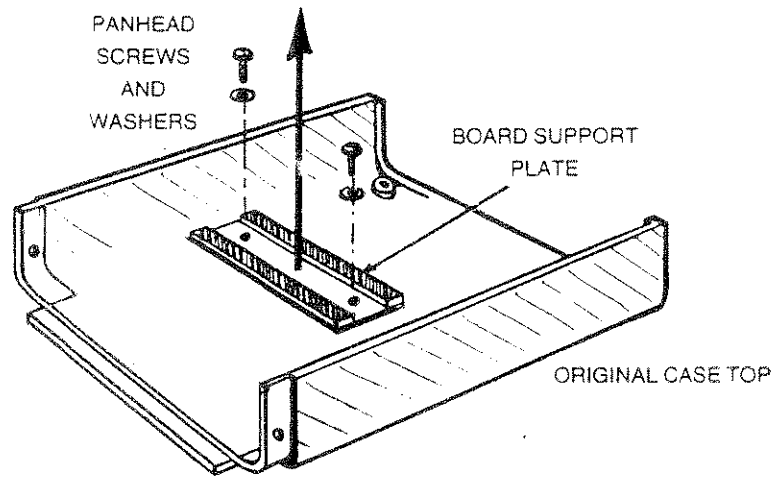

Fig 2.13 Removing the board plate from the original case top.
2. Remove the board support plate from the original case top and refit it in the same position inside the replacement case top. Use the same screws and washers. See Fig 2.13.